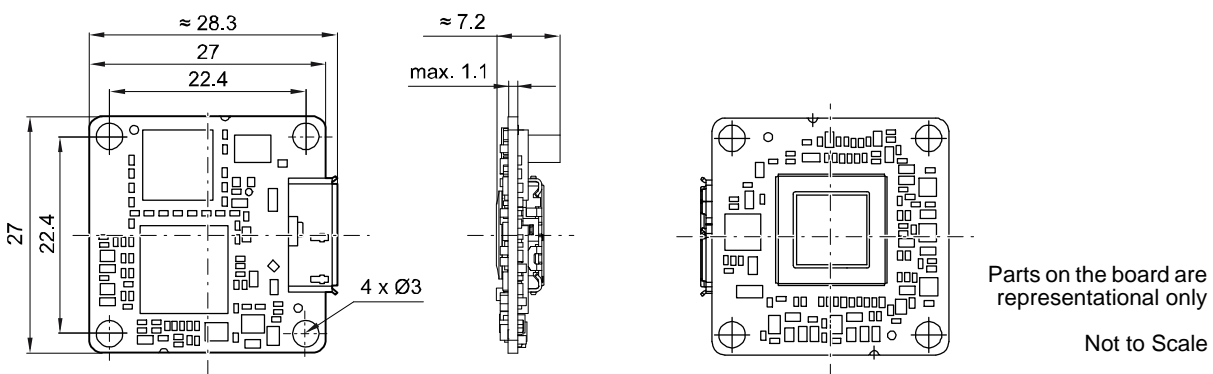

Fig. 9: Mechanical Dimensions (in mm) for Bare Board Cameras
- dart bare board cameras are as shown in Figure 9.